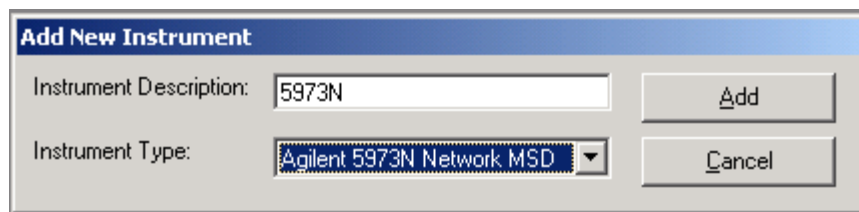

Figure 7 Add New Instrument dialog box
- 2 To create an instrument, right-click the **Instruments** icon and select **New Instrument** in the **Edit Method** window or select **Add Instrument** from the **Edit** pull-down menu. The **Add New Instrument** dialog box appears (Figure 7).